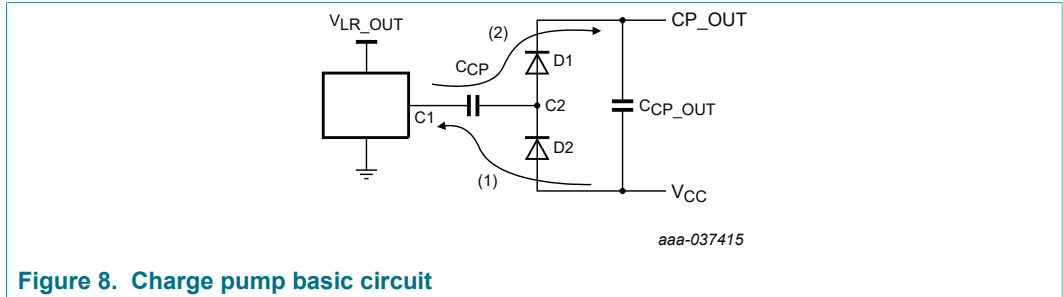

Figure 8. Charge pump basic circuit
The charge pump generates the high-side driver supply voltage (CP\_OUT), buffered at CCP\_OUT. Figure 8 shows the charge pump basic circuit without load.
When the oscillator is in low state [(1) in Figure 8],  $C_{CP}$  is charged through  $D2$  until its voltage reaches  $V_{CC} - V_{D2}$ . When the oscillator is in high state (2),  $C_{CP}$  is discharged through  $D1$  in  $C_{CP\_OUT}$ , and final voltage of the charge pump,  $V_{CP\_OUT}$ , is  $V_{CC} + V_{LR\_OUT} - 2V_D$ . The frequency of the 33883 oscillator is about 330 kHz.